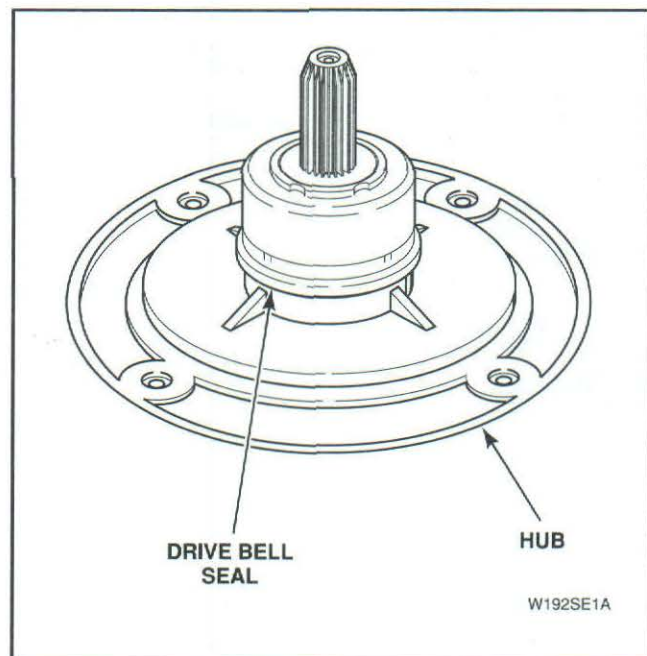
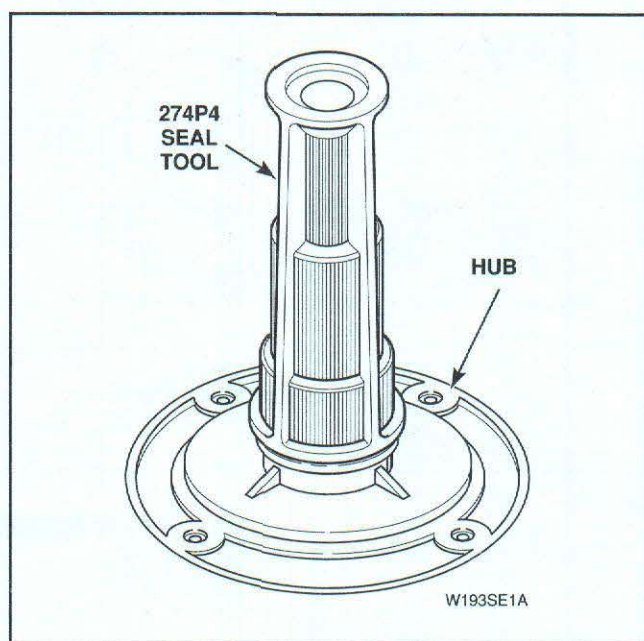

Figure 18
Figure 19
- o. Place new drive bell seal on hub, Figure 18, and carefully push seal into position using large end of No. 274P4 Seal Tool, Figure 19.